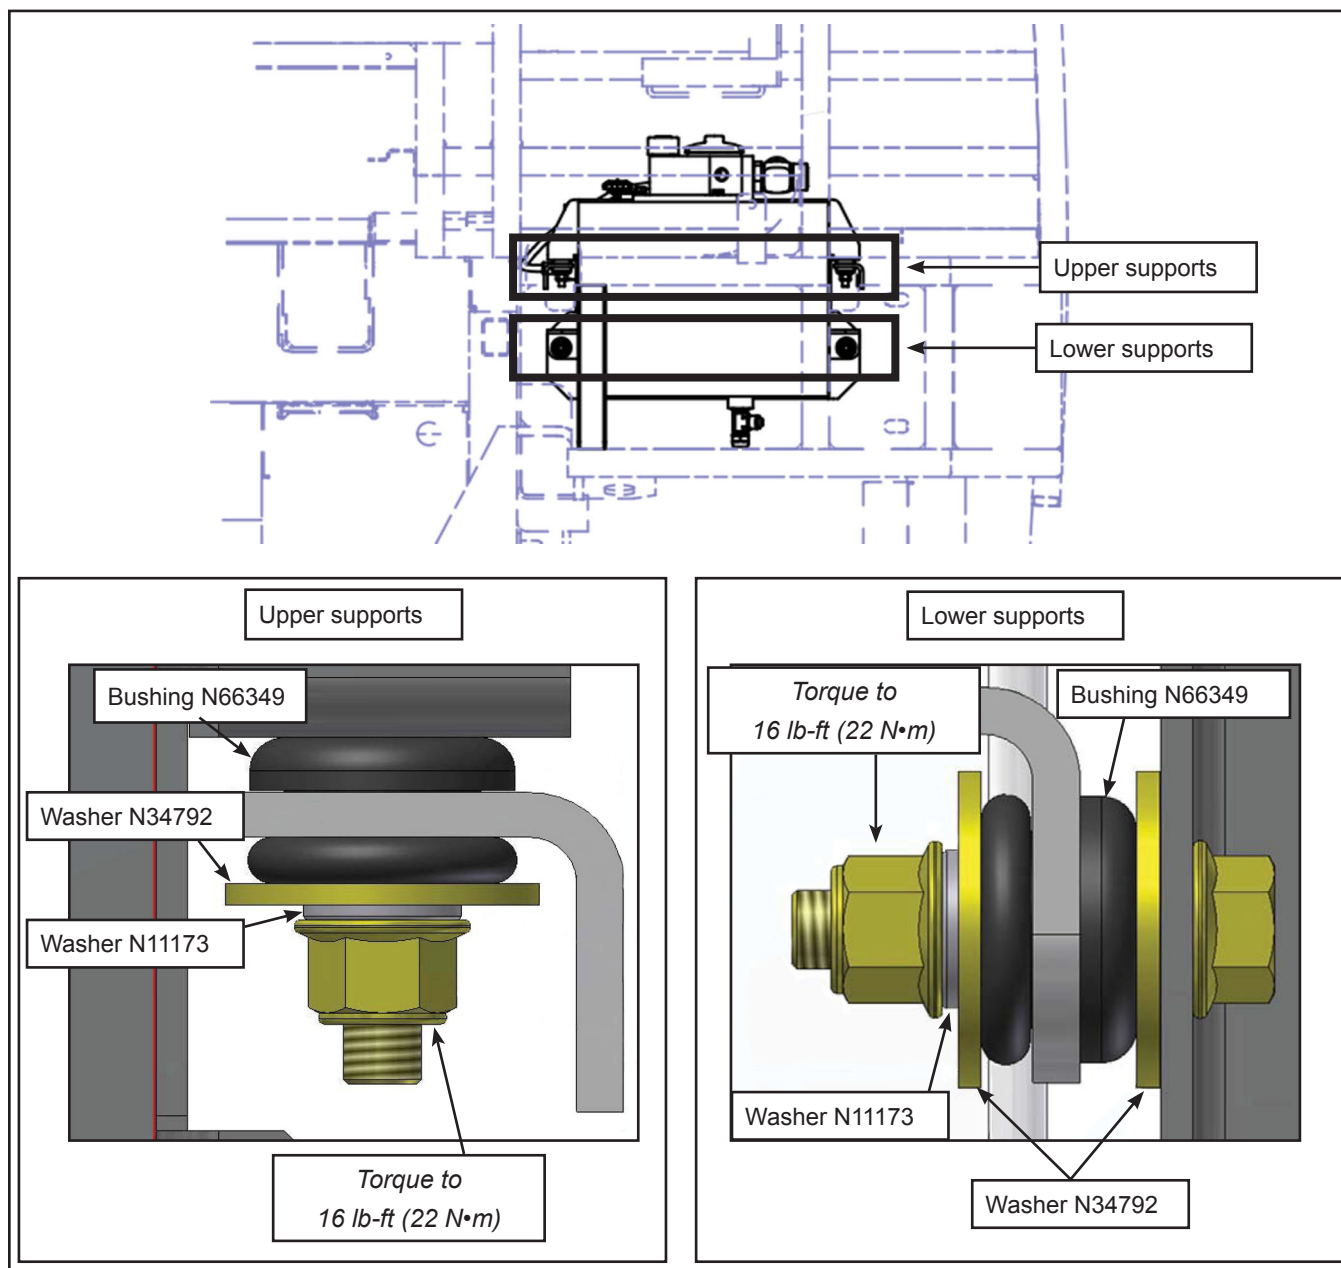

Figure 19 - Hydraulic Tank Anchor Hardware
- 1.15. With all 4 mounting brackets modified, proceed to re-assemble the hydraulic tank using new N66349 bushings and new n44888 M8 nuts. Torque to 16 lb-ft (22 N•m) and apply anti-tamper seal. See Figure 19.